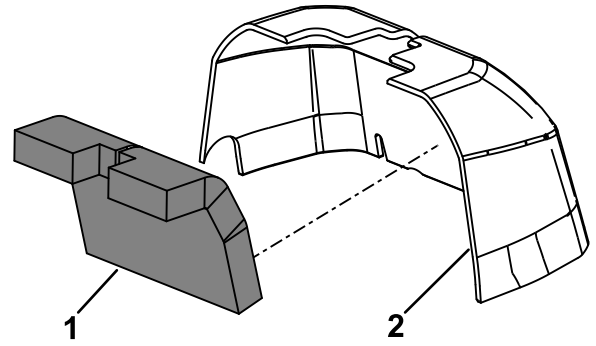

Figure 7
8. Remove the backing film and install the steering plug to the steering cover (Figure 7).